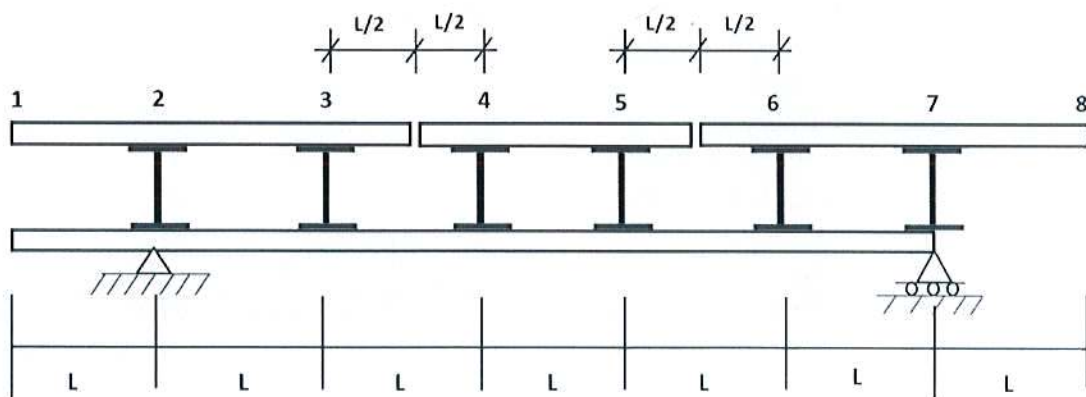

Fig: 4
5. Draw Influence Line for shear force in panel 4-5 and bending moment at panel point 5 of the girder with floor beam system as shown in Fig 4. (12)
6. A footbridge is to be constructed, consisting of a one way solid slab spanning 5m between masonry abutments as shown in Figure 4. The service live load of the slab is 4 kN/m2. A 50 mm asphalt wearing surface will be used, weighing 1 kN/m2. Design the slab by USD method following the ACI provisions. (20)